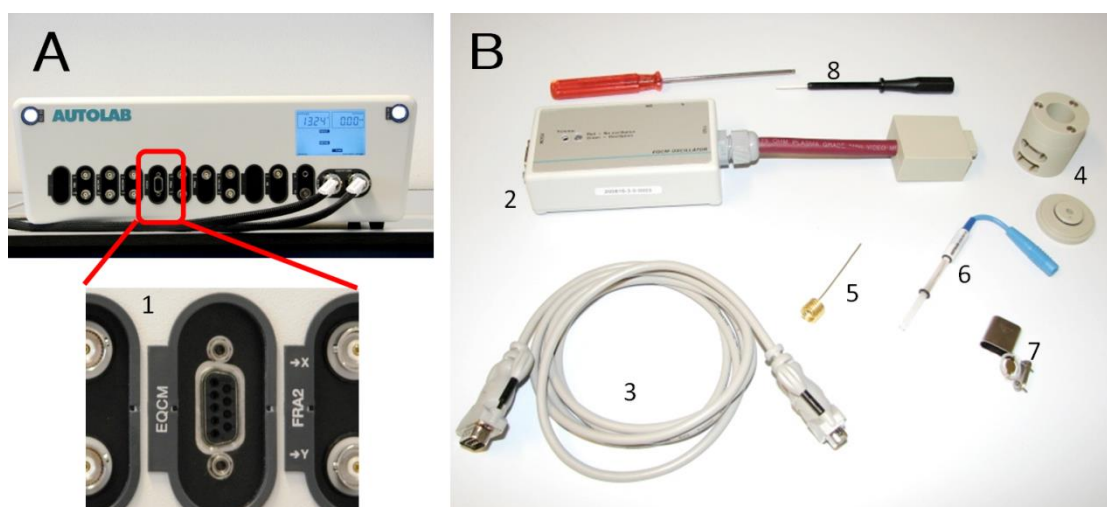

Figure 2 – Overview of the Autolab EQCM kit (A – Module, B – Accessories)
Shown in Figure 2 is a picture of all items which are included in the Autolab EQCM kit.
As shown in Figure 2, the Autolab EQCM kit contains the following:
1. EQCM module, to be installed in the Autolab PGSTAT or alongside the M101 module in a Multi Autolab Cabinet (Figure 2, A-1).
2. EQCM oscillator (Figure 2, B-2).
3. A 9 Pin Sub-D connector cable (2 m long) to connect the EQCM module and the oscillator (Figure 2, B-3).
4. EQCM cell¹, detachable (Figure 2, B-4).
5. A gold counter electrode (Figure 2, B-5).
6. A Ag/AgCl in 3 M KCl gel reference electrode² with O-ring (Figure 2, B-6).
7. Two Au/TiO₂ polished EQCM crystals³ (Figure 2, B-7).
8. Tool kit for the driving force adjustment and assembly/disassembly of the cell (Figure 2, B-8).
9. One set of spare O-rings (not shown in Figure 2).